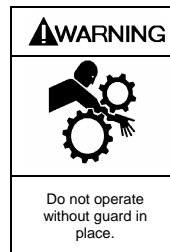

**Figure 12 – Locknut Assembly**
It is important that the bearing locknuts (24A) and lockwashers (24B) be installed and adjusted properly. Overtightening locknuts can cause bearing failure or a broken lockwasher tang. Loose locknuts will allow the rotor to shift against the discs (71), causing wear. See Figure 12.
- b. Tighten both locknuts (24A) to ensure that the bearings (24) are bottomed in the head recess. **DO NOT** overtighten and bend or shear the lockwasher inner tang.